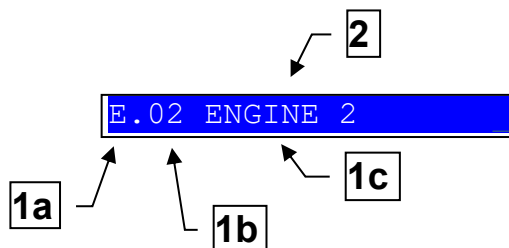

Fig. 5 - Top status bar
6.4.6 Top status bar (ref. to fig. 5)